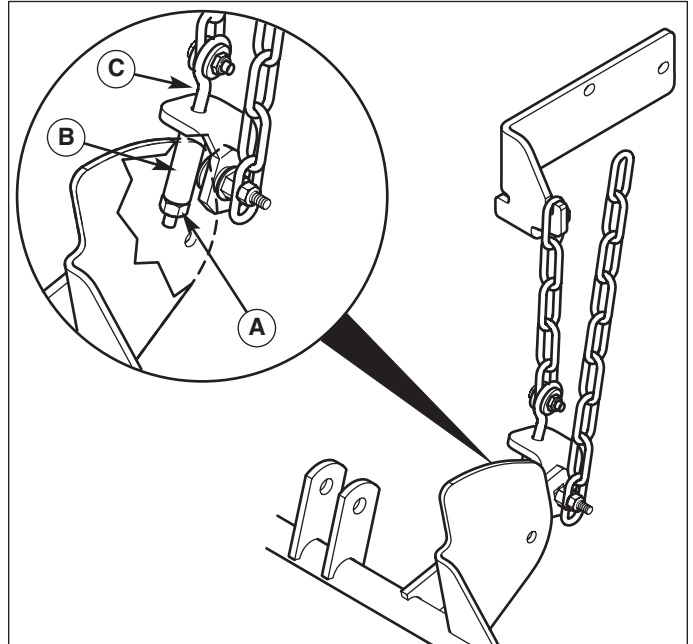

Figure 46. Side-to-Side Adjustment
7. See Figure 46. Prevent I-Bolt (C) from turning; then adjust spacer (B) by turning lock nut (A) clockwise (up) or counter-clockwise (down) to achieve correct side to side leveling.